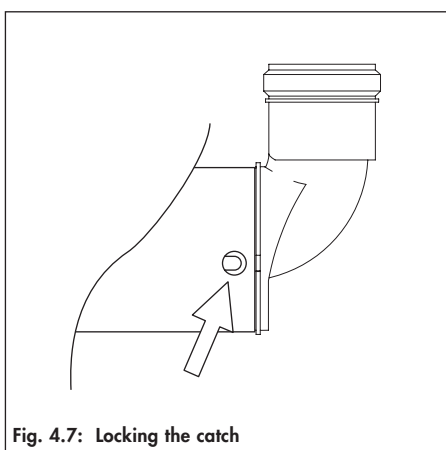

Fig. 4.7: Locking the catch
- Push the flue duct and the variable terminal back into the air duct and lock the two catches (fig. 4.7).
- Push the flue duct with the variable terminal back in the air duct. Carefully push the flue duct back into the sleeve of the duct or bend behind it. Lock the two catches (fig. 4.7).